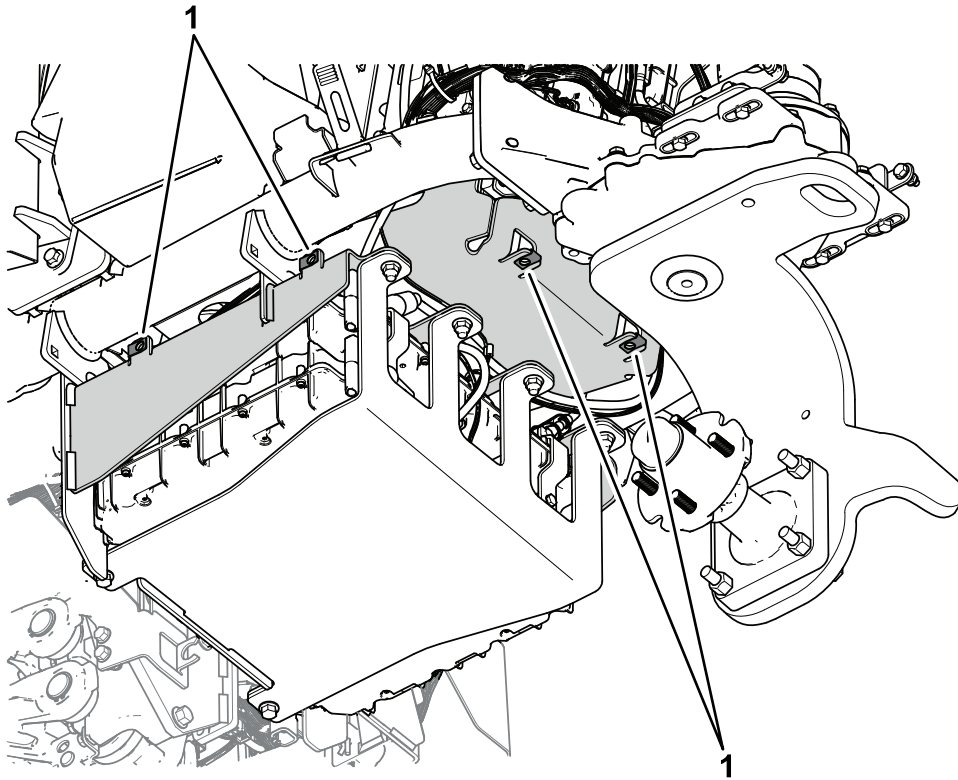

Figure 32
- Install 6 speed nuts to the tabs on the upper mount plate and the lower mount plate (Figure 32).